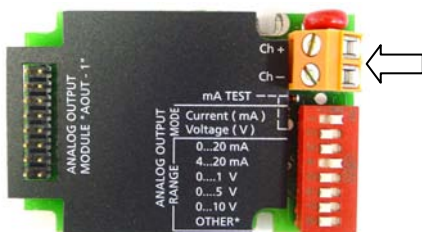

Figure 2 Analog output module
4. If you have the optional analog output module, connect the cables to the terminals Ch+ and Ch- on the analog output module. The terminals are shown in Figure 2.